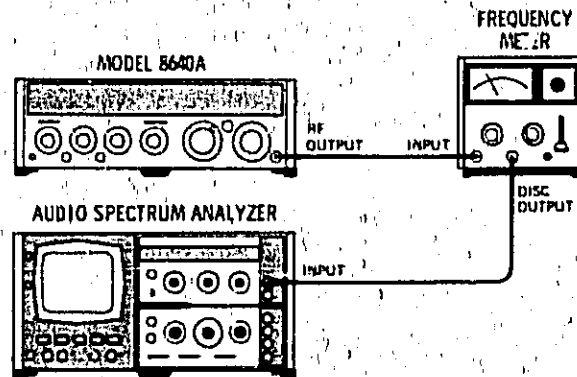

Figure 4-16. FM Distortion Test Setup
1. Connect equipment as shown in Figure 4-16 after setting Signal Generator's controls as follows: